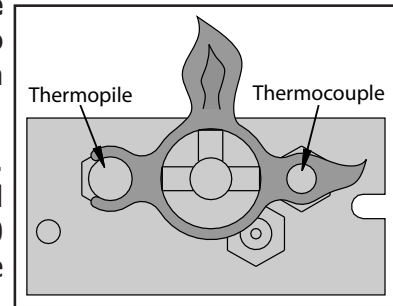

Figure 4. Pilot Flame
1. Turn off the gas to the fireplace. **If not recently done, remove the glass and let the unit air out for at least five (5) minutes to clear out any gas.** Turn on gas to the heater. Leak test all joints with soapy water. **NEVER USE OPEN FLAME FOR LEAK TESTING.**
2. Start the pilot by pressing the gas control knob and turning it to PILOT. While holding the gas control knob in, press the piezo ignitor several times until the pilot light starts. Hold the gas control knob in for 30 seconds. Check that the pilot has fully engulfed the thermocouple assembly (see Figure 4).